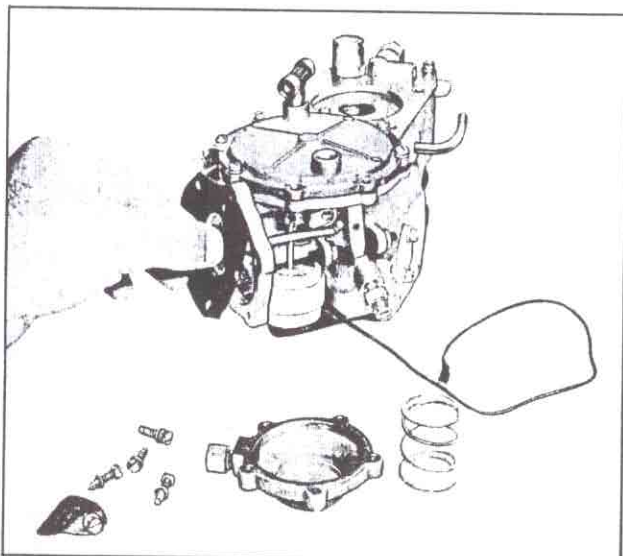

Fig. 134—Removing Power Enrichment Diaphragm
8. To remove the enrichment diaphragm, first remove the hairpin retainer securing the diaphragm rod to the enrichment lever. Then remove the five screws securing the enrichment diaphragm cover while holding the cover in place to prevent losing the spring when the cover is released (fig. 134). Once the cover is removed, turn the diaphragm slightly to free the rod from the enrichment lever.